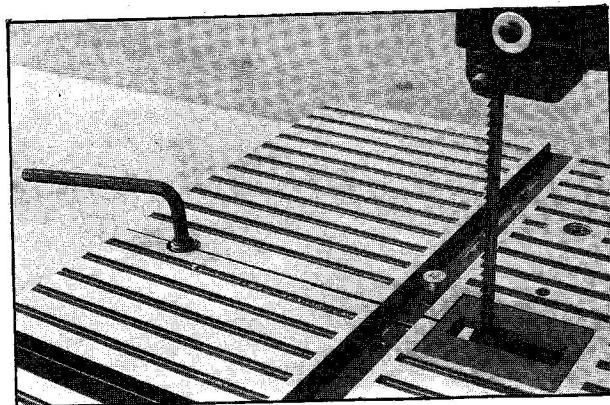

FIGURE 5
5. Replace set screw and insert plate as shown in Figure 5.